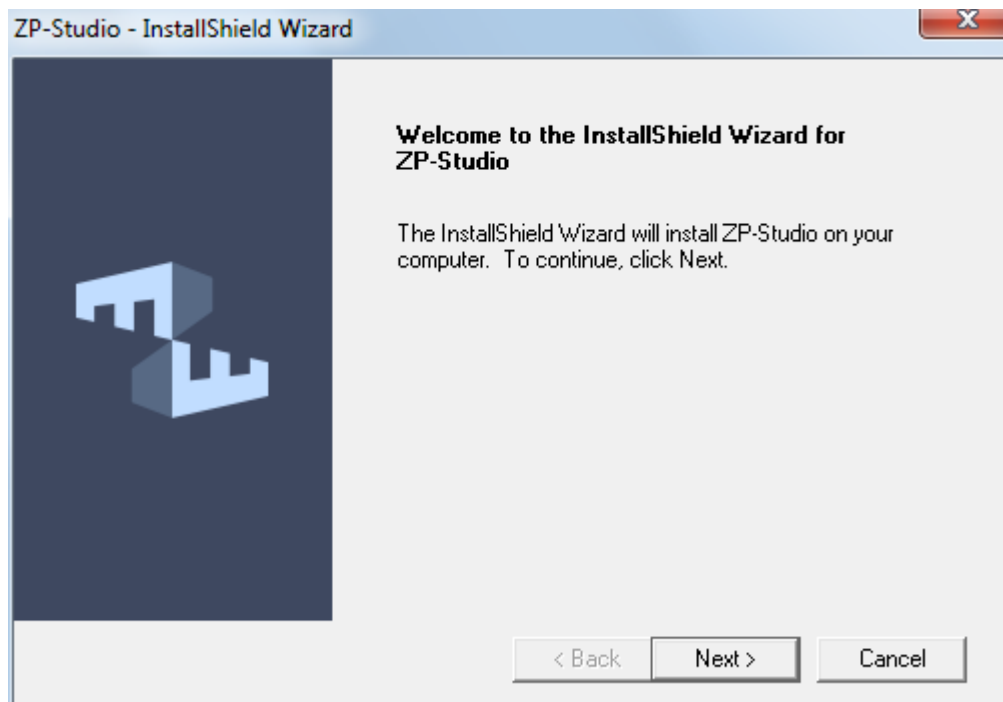

Figure 2-1 Main installation window
2. Connect the LAP Educator to the PC via USB. Insert the installation CD into CD-ROM. If the CD does not auto play, open the setup.exe file manually. The dialog box from Figure 2-1 will be shown.